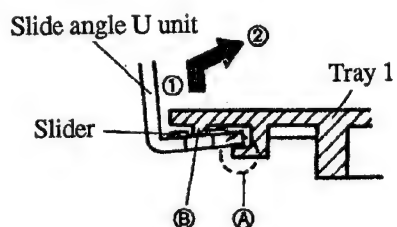

Figure 10
3. Move Tray 1 in the direction of the arrow in Figure 10 and while removing the protruding section B of Tray 1, remove the A section where Tray 1 and the Slide angle U unit catch.